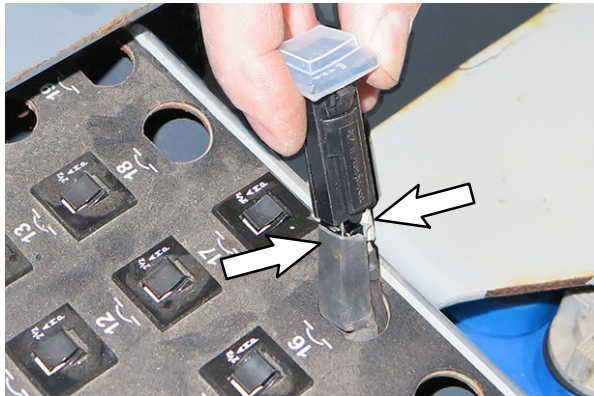

FIG. 12
25. Battery Machines Only: Connect the blue spotlight harness (6) and the main wire harness 20N connector to the 2.5- Amp circuit breaker (7). (Fig. 12/ Fig. 7)